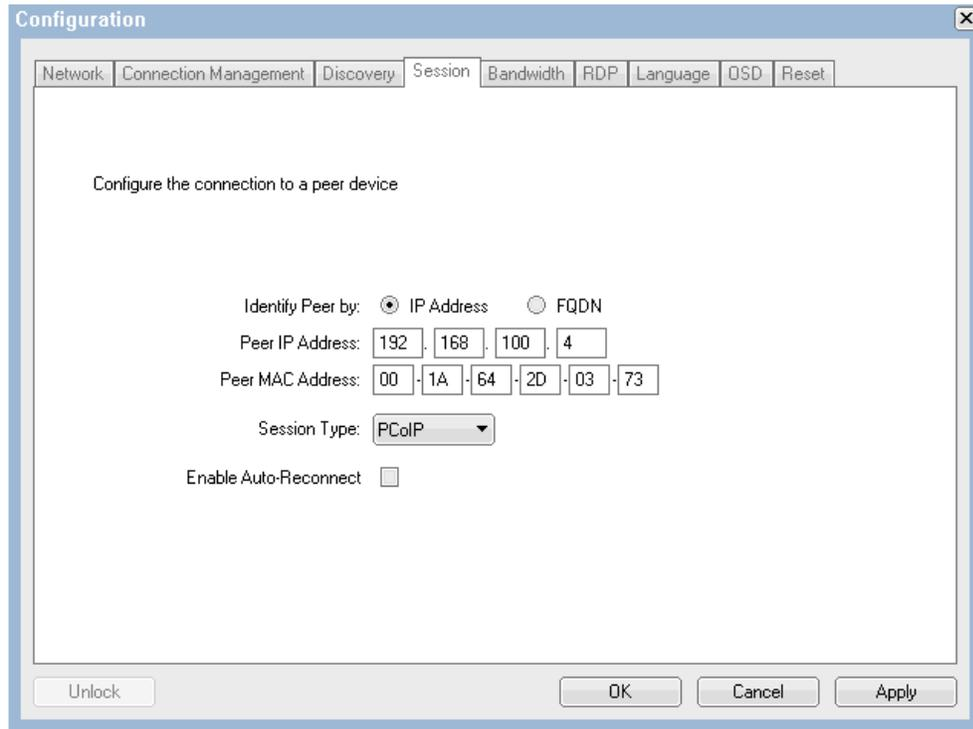

Figure 6-64 Session tab of the local interface
6. Click the Session tab (see Figure 6-64).